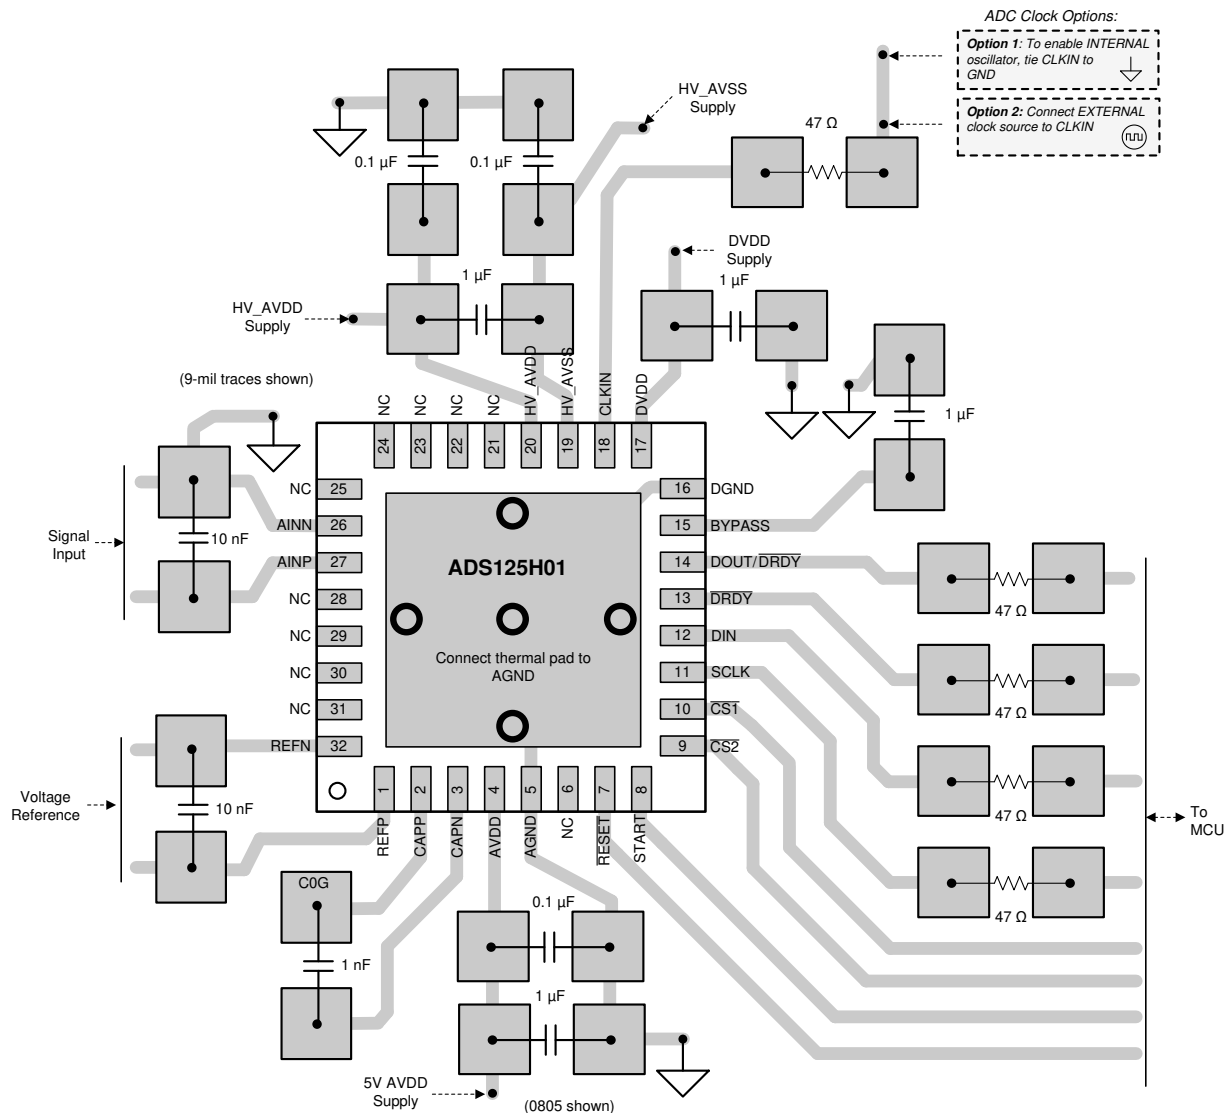

图 12-1. Example Top-Layer PCB Layout
**Figure 12-1** illustrates an example layout of the ADS125H01, requiring a minimum of three PCB layers. The example circuit is shown with bipolar supply operation ($\pm 15\text{ V}$). In this example, the inner layer is dedicated to the ground plane and the outer layers are used for signal and power traces. If a four-layer PCB is used, dedicate an additional inner layer for the power planes. In this example, the ADC is oriented in such a way to minimize crossover of the analog and digital signal traces.